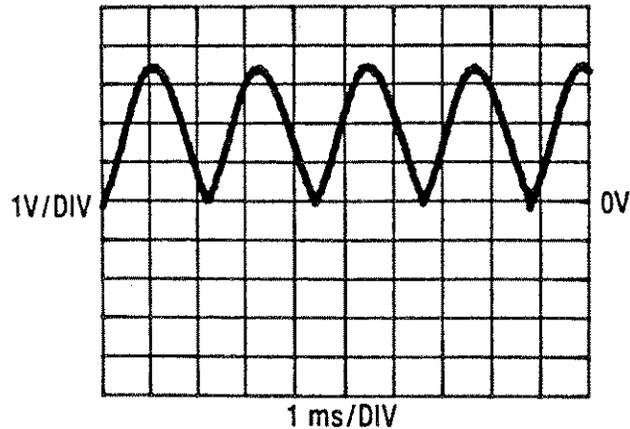

Figure 8-47. Synchronous Phase Detector Output Waveform
2. Compare the waveform at A5TP19 to Figure 8-47.
6. If the signal at A5TP19 is not as shown in Figure 8-47, replace A5U26 or A5R38.